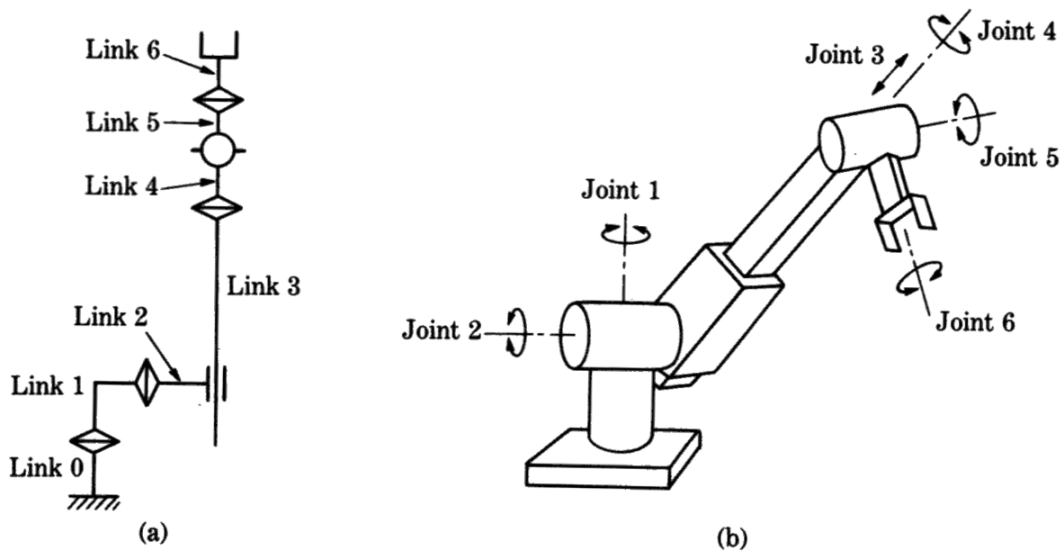

Figure 2: Stanford manipulator.
Task 2.2: (3 points) The Stanford manipulator has five revolute joints and one prismatic joint. Figure 2(a) illustrates the general idea and figure 2(b) shows the general configuration of a Stanford manipulator. Assume the distance between joint 1 and joint 2 to be d_2 . Specify the coordinate frame of each joint and present the corresponding Denavit-Hartenberg (DH) parameters as a table.